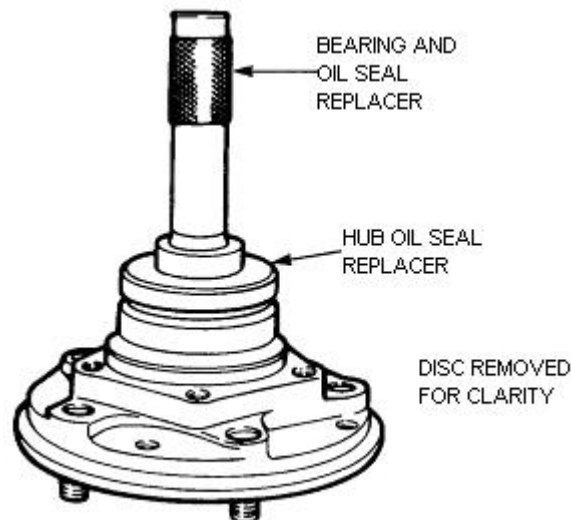

Figure 97 Hub Seal Installation
- d. Using the hub oil seal replacer (Table 3, Serial 7) and the bearing and oil seal replacer (Table 3, Serial 11), press the new oil seal into the hub with the seal lip towards the hub bearing (Figure 97).